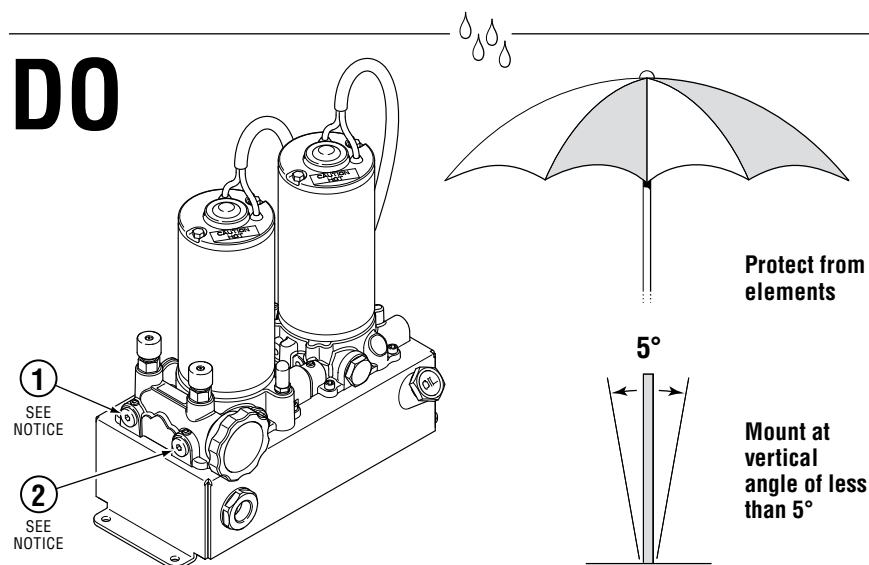

Figure 4-7.
Hose fittings can be relocated to plugged ports if required. (See figure 4-7, item 1 and 2.) Torque hose fittings to 18 ft-lb (24 Nm) and plugs to 50 in-lb (6 Nm).